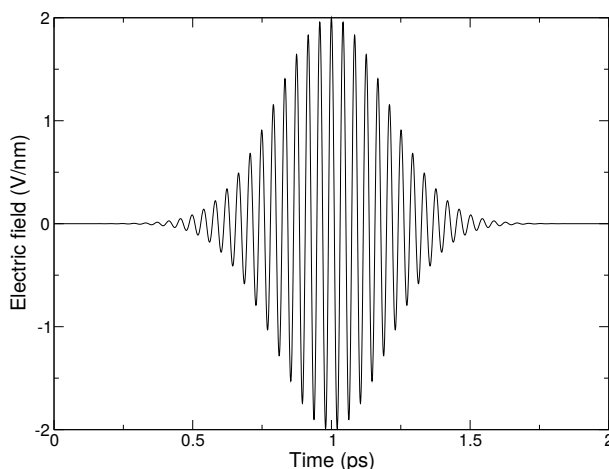

Fig. 5.48: A simulated laser pulse in GROMACS.
This simulated laser-pulse was applied to simulations of melting ice 146 (page 547). A pulsed electric field may look like Fig. 5.48. In the supporting information of that paper the impact of an applied electric field on a system under periodic boundary conditions is analyzed. It is described that the effective electric field under PBC is larger than the applied field, by a factor depending on the size of the box and the dielectric properties of molecules in the box. For a system with static dielectric properties this factor can be corrected for. But for a system where the dielectric varies over time, for example a membrane protein with a pore that opens and closes during the simulation, this way of applying an electric field is not useful. In such cases one can use the computational electrophysiology protocol described in the next section (sec. Computational Electrophysiology (page 489)).
yields an pulsed-oscillating electric field with  $E_0 = 2$  V/nm,  $\omega = 150$ /ps and  $t_0 = 5$  ps and  $\sigma = 1$  ps. Read more in ref. 146 (page 547). Note that the input file format is changed from the undocumented older version. A figure like Fig. 5.48 may be produced by passing the `-field` option to *gmxdrun* (page 188).